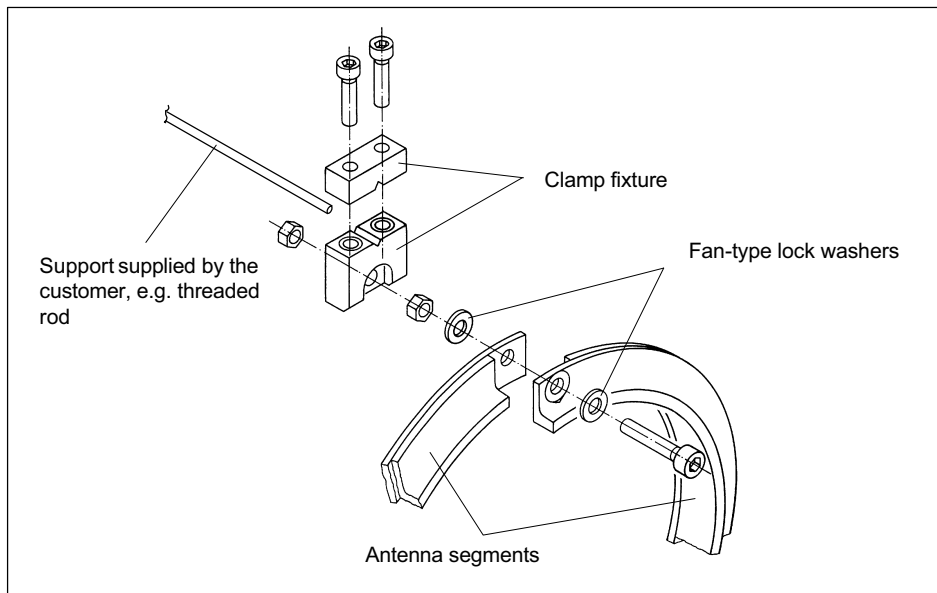

Fig. 5.6 Installing the clamp fixture
2. Fasten the clamp fixture with the enclosed screw fitting as shown in *Fig. 5.6*. It is essential to use the new fan-type locking washers!